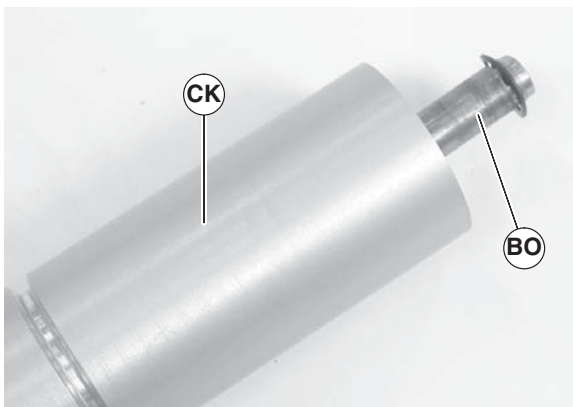

Figure 84
- Slide the shaft assembly (Figure 84, item BO) out of the pulley (CK).